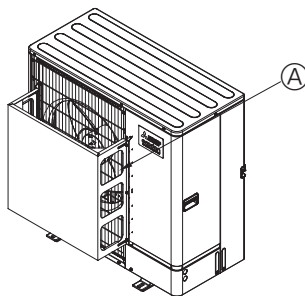

Fig. 1-20
- ② Install an optional air guide if the unit is installed in a location where strong winds from a typhoon, etc. may directly enter the air outlet. (Fig. 1-20) A Air outlet guide